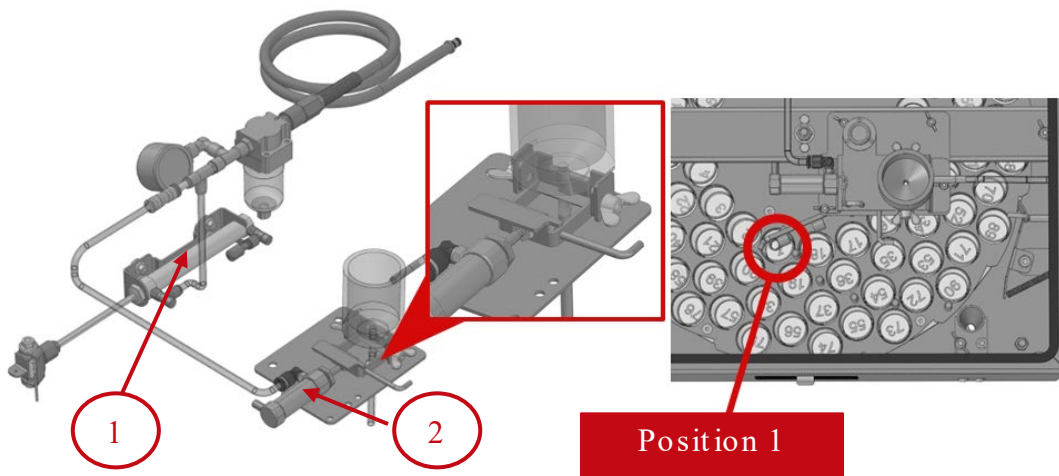

Figure 64. Standby position
In the standby position, without air pressure, the cylinder (1) which drives the crown pushes the rod out, the cylinder (2) to fill the bottle with the rod out and presses the silicone tube, the dispenser changer tube is in position 1. (See figure 64)